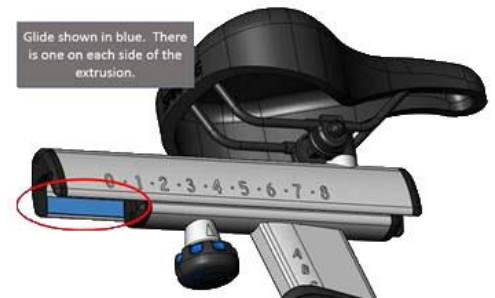

Figure 4
- 5 Remove the black plastic guides see Figure 4.